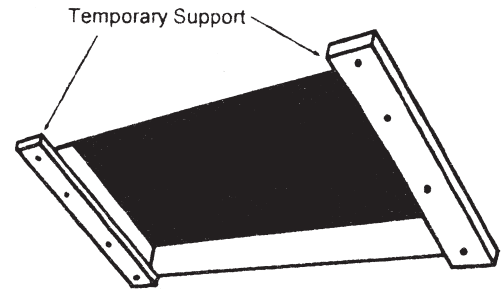

Fig. 4
Step 1 Build two ledges to hold the stairway in the rough opening using 1" x 4" temporary slats which extend across the ends of the rough opening. Each slat should extend approximately 1/2" to 5/8" into the rough opening. If the length of the rough opening is not exact, be sure that there is enough ledge to overlap each end of the stair by 1/4" to 3/8". The slats should be nailed securely enough to hold the weight of the stairway (Fig. 4).